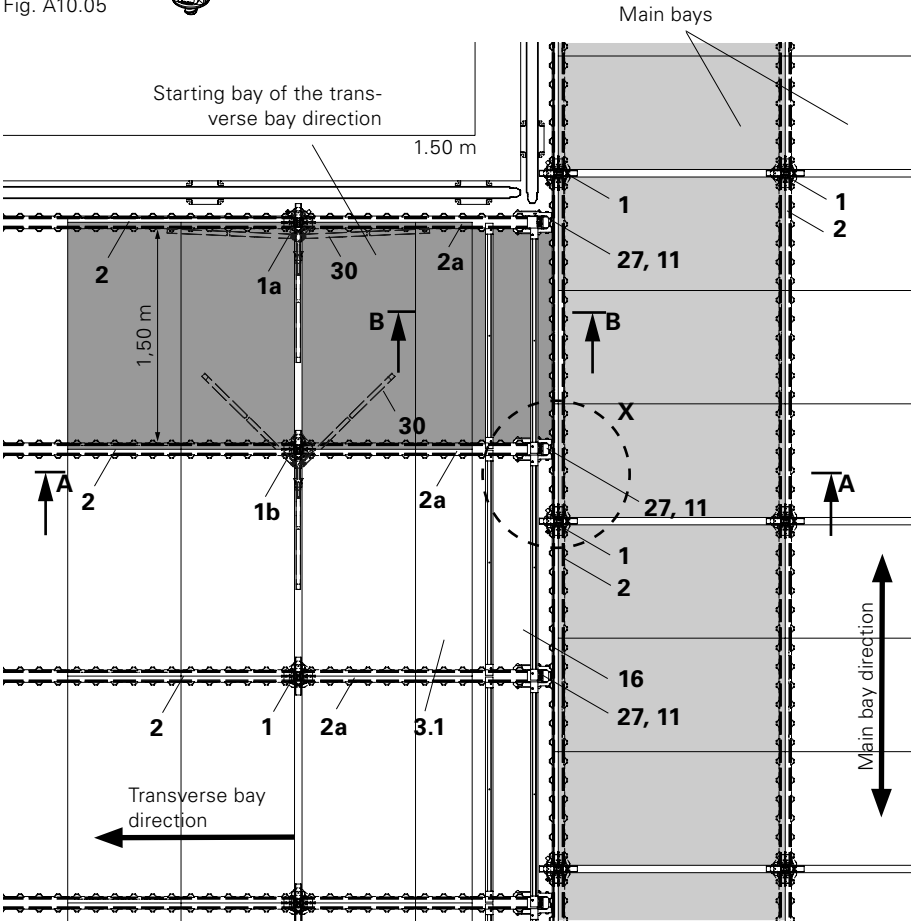

Fig. A10.06
(Fig. A10.06 + A10.06a)
3. Mount the second Drophead SDFK at a distance of 1.50 m. (Fig. A10.06)
4. Position one slab prop with Drophead SFK (1a) in the direction of the transverse bay. (Fig. A10.06)
5. Position second slab prop with Drophead SFK (1b) and secure slab props with tripods (30). (Fig. A10.06)
6. Mount Main Beam SLT 150 / 225 (2a) in the Dropheads. (Fig. A10.06, A10.08, A10.08a)
Assemble additional transverse bays in the same way as the first transverse bay along the Main Beam SLT 225. (Fig. A10.06)
3. Fix End Support SSL (11) to the Main Beam SLT in the filler area. Install Edge Beam SRT 150-2 (9) as well as Filler Timber SPH 225 (12) and filler plates (16), see Section A5 Infills. (Fig. A10.06, A10.06a, A10.08a)